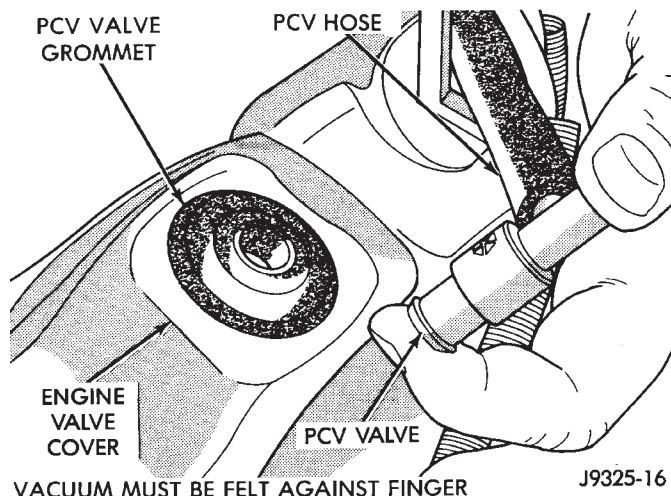

Fig. 11 Check Vacuum at PCV Valve—Typical
(1) With engine idling, remove the PCV valve from cylinder head cover. If the valve is not plugged, a hissing noise will be heard as air passes through the valve. Also, a strong vacuum should be felt at the valve inlet (Fig. 11).